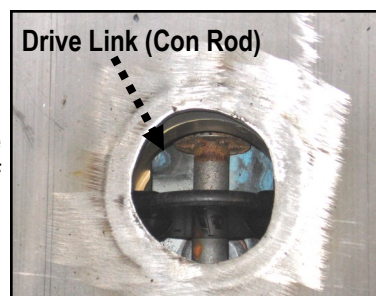

Fig. 5 Inside Tank at Bottom Cavity
2. Point the gun into the tank and briefly turn on pump for **2 SECONDS** to check if the drive link (con rod) is spinning. This can be viewed from a distance on the inside of the tank at the bottom cavity. (See Fig 5). Keep the safety grating in place at all times.